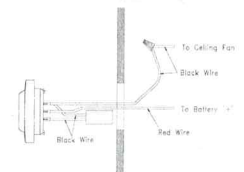

Figure 4
- Cut a Ø45 mm opening in mounting surface. See Figure 4